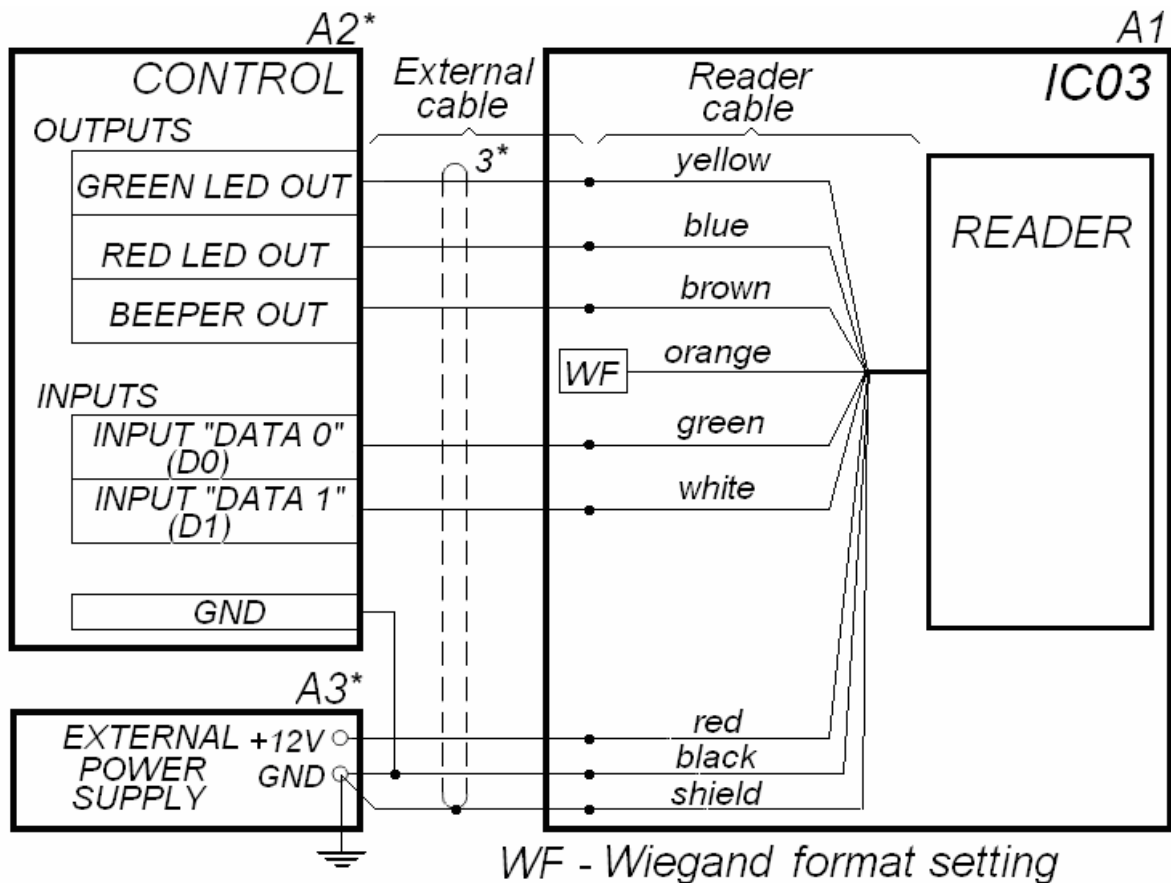

Figure 8. Wiring diagram for connection of the reader of the card capture reader to ACS controller via Wiegand interface
12. Connect the reader with the cable (12)² according to wiring diagram (see Figure 8). When the reader is connected to the ACS controller as per the given diagram, external control of the light indication in accordance with the “single-double” jumper position (see Clause 5.6) and *Wiegand 26* output data format (orange wire – WF not connected) are set up automatically.